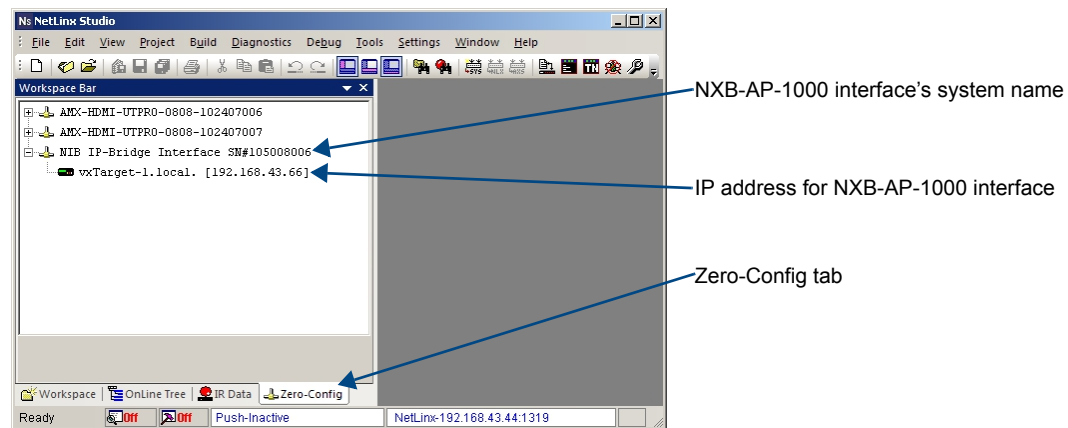

FIG. 30 NetLinx Studio showing the Zero-Config tab and the IP address for an NXB-AP-1000 interface
2. Right-click anywhere in the Workspace and select Refresh Zero-Config List to generate an initial listing of all Zero-Config devices that have been detected (FIG. 30).